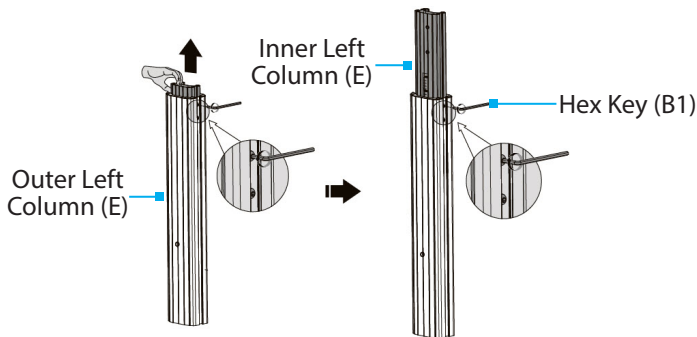

Figure 2
2. Hold the inner and outer **Left Column (E)** in one hand and loosen the two **Hex Screws** on the side of the **Left Column (E)**, using the **Hex Key (B1)**. (Figure 2)